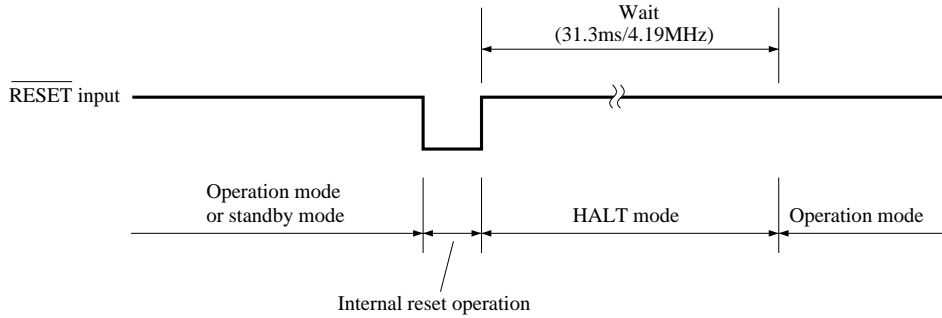

Fig. 8-1 Reset Operation by $\overline{\text{RESET}}$ Input
When the $\overline{\text{RESET}}$ signal is input, the μPD75512(A) is reset and each hardware is initialized as indicated in Table 8-1. Fig. 8-1 shows the reset operation timing.